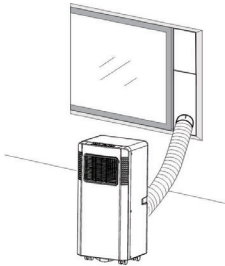
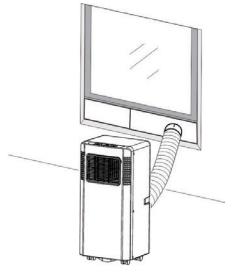

Fig. 2
Fig. 2a
- 2) As shown in Fig. 2 and Fig. 2a, install the exhaust hose, and adjust the window position well.